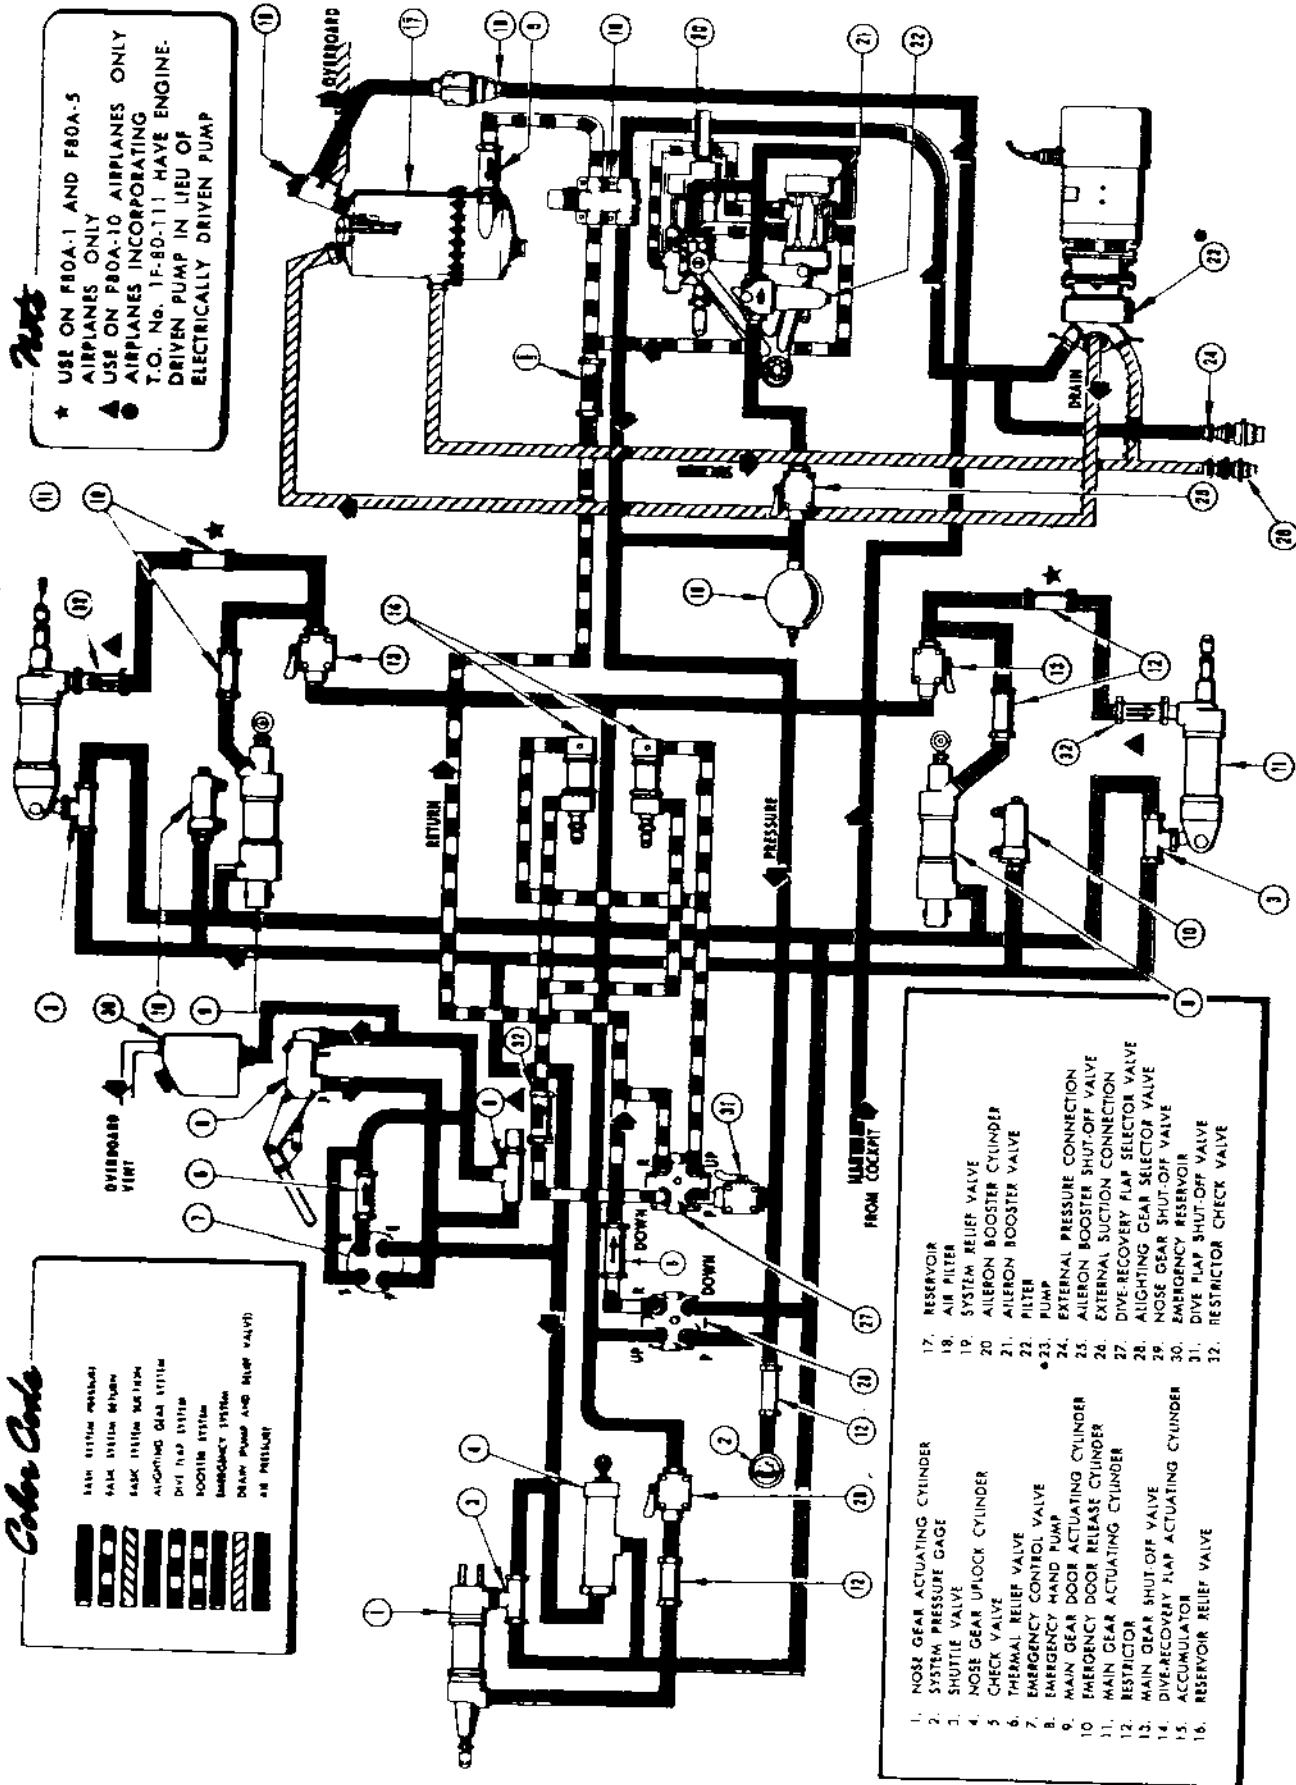

Figure 142 — Hydraulic System Schematic Diagram, AF Serial No. 44-84992 through 44-85336
16. HYDRAULIC SYSTEM.*(See figures 142, 142A, 143, and 144.)*